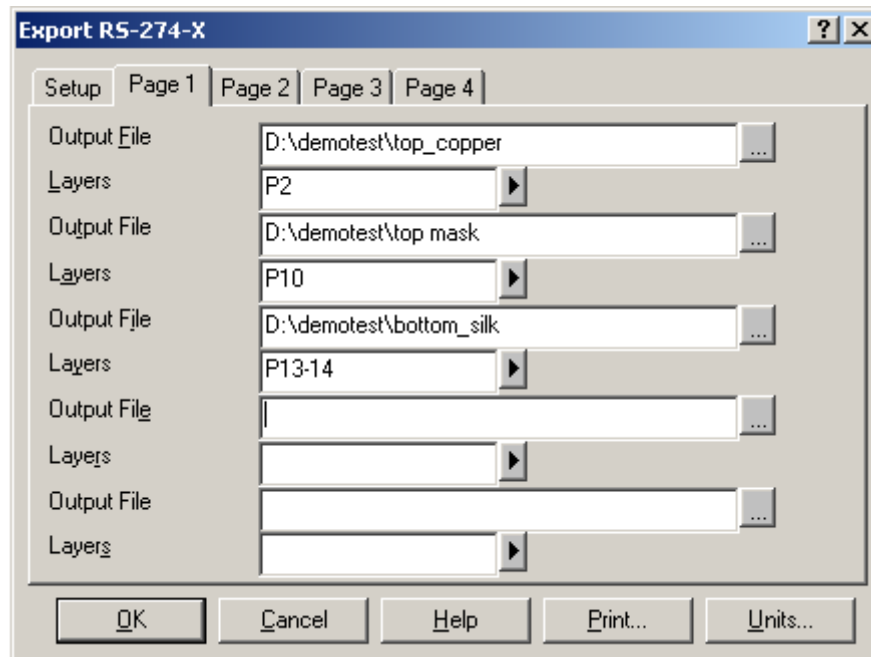

Figure 17: Export Dialog
1. Run File > Import (hot key “shft + i”) and select the Aperture.rep, SILKBOT.GBR, SILKTOP.GBR, SPASTBOT.GBR and SPASTTOP.GBR files from the following directory: C:\Program Files\GraphiCode\PowerPlatform x.x.x\GC-PrevuePlus\Examples – See Figure 17: